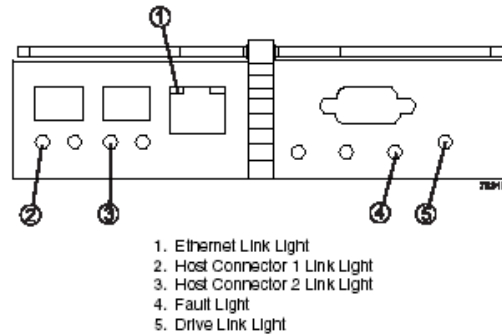

FIGURE 7-20 Drive Link, Host Link, Battery, and Fault Lights
16. Choose one of the following steps, based on the status of the Host Link, Drive Link, and Fault lights. Figure 7-20 on page 7-36 shows the locations of these lights.
23. After 24 hours, check the host link, drive link, fault, and battery lights to ensure the battery is working properly. Figure 7-20 shows the locations of these lights. If the battery has a fault, use the storage management software to check the command module status and obtain the recovery procedure.